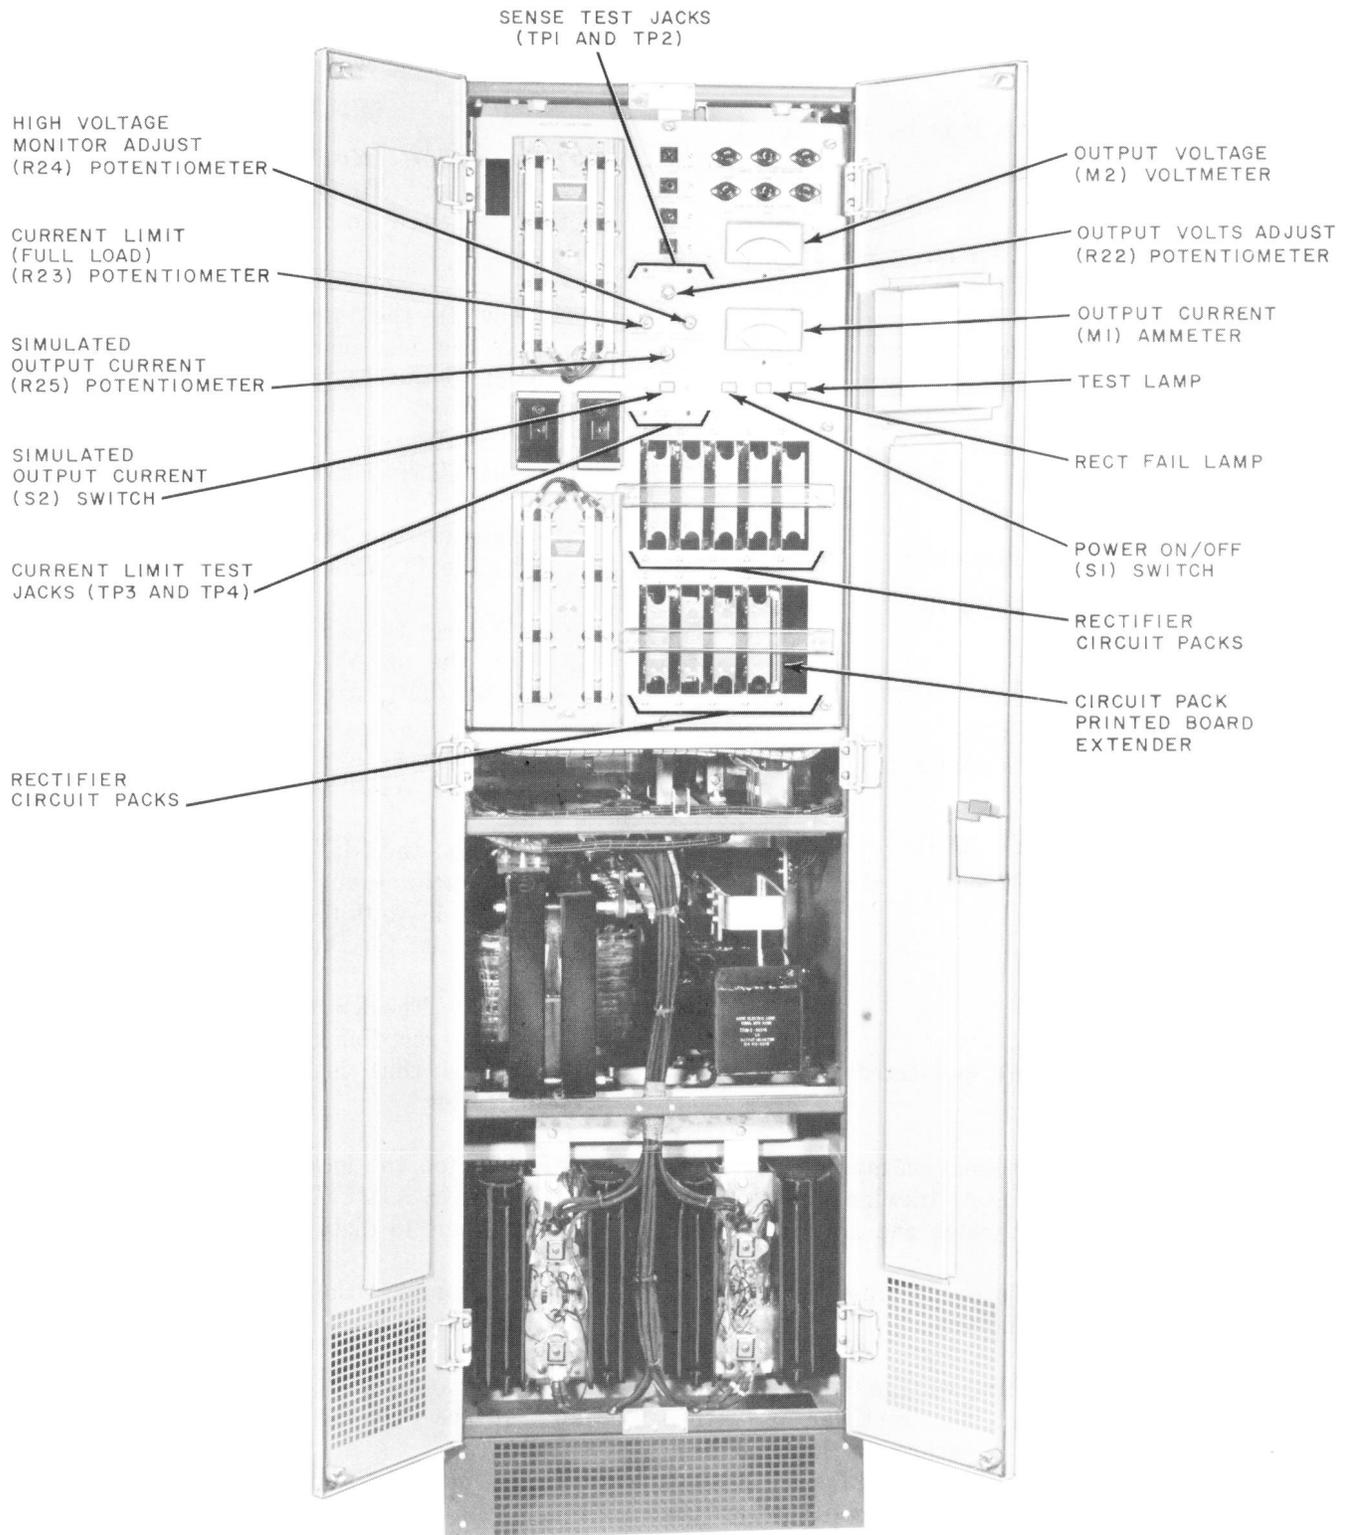

Fig. 1—KS-20489 L22 Rectifier—Front Doors Open
1.06 Refer to Fig. 1 for a front view of the KS-20489 L22 rectifier with the doors open.